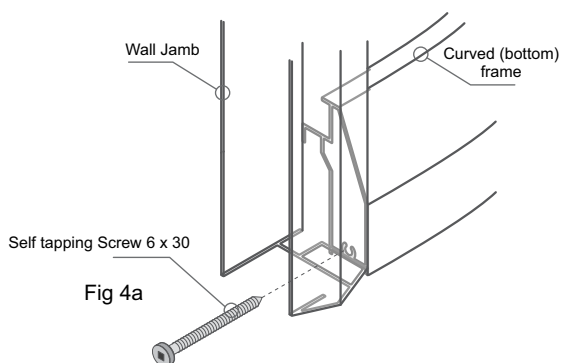

Fig 4a
- 5 - Assemble Frame Place the **bottom** Curved frame on the ground and screw the Wall Jambs to each end using the screws (see Figs 4a, 4b above).